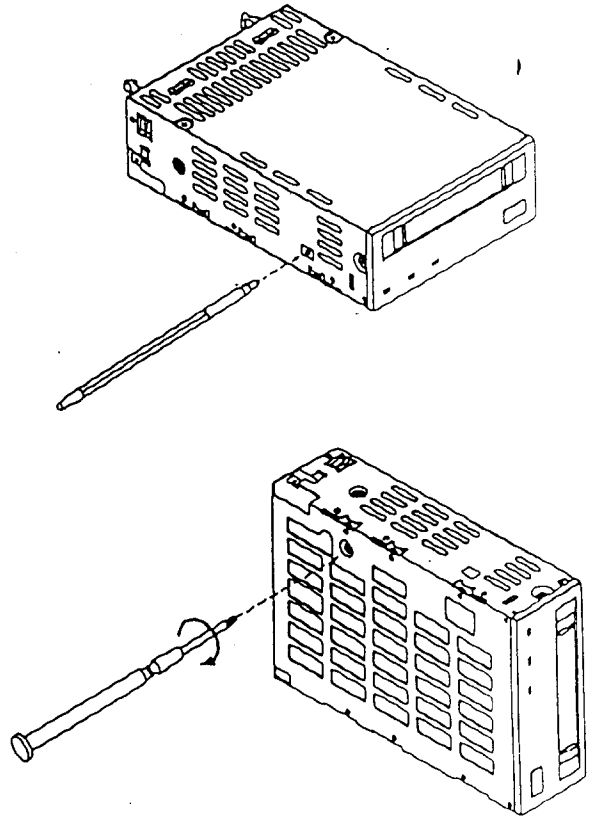

Figure 3-1. Emergency Tape Removal
1. Refer to Figure 3-1. Remove the drive from the chassis or enclosure to allow access to the bottom and left side of the drive.
6. Take the drive to your Sony Regional Service Center for repair, or call Sony Service at (408) 922-0699.